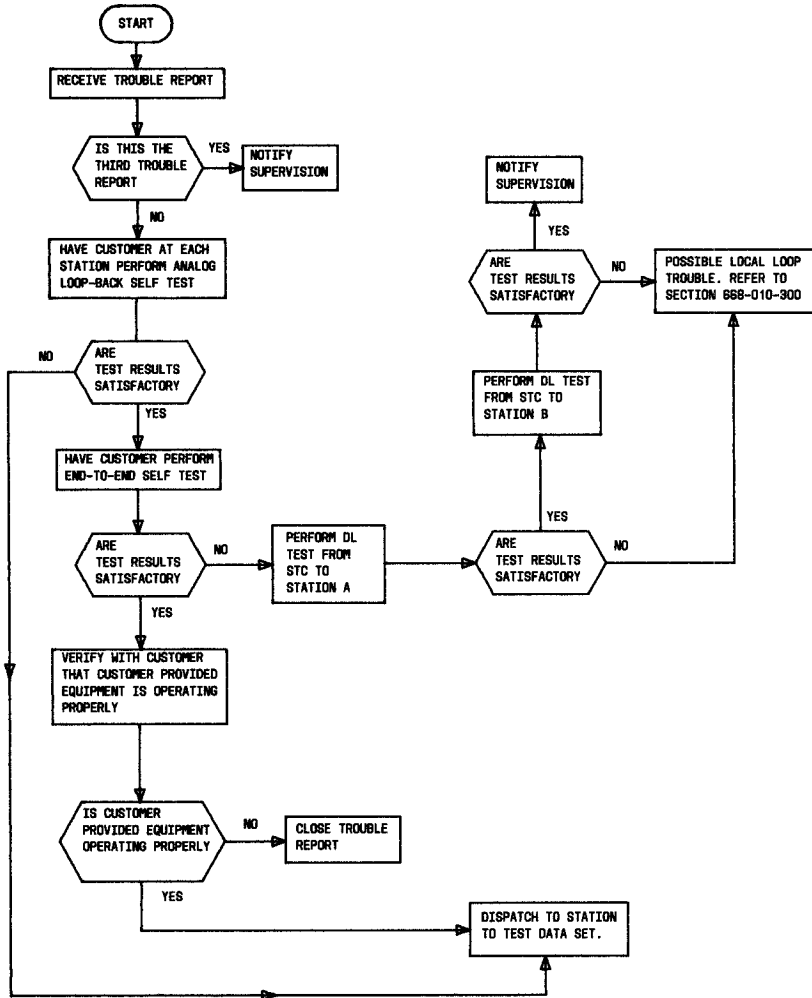

Fig. 2—Clearing Trouble Report
**3.02** When a trouble report is received, the DTC is responsible for isolating the trouble to the data set or transmission facility. The procedure for doing this is shown in Fig. 2.